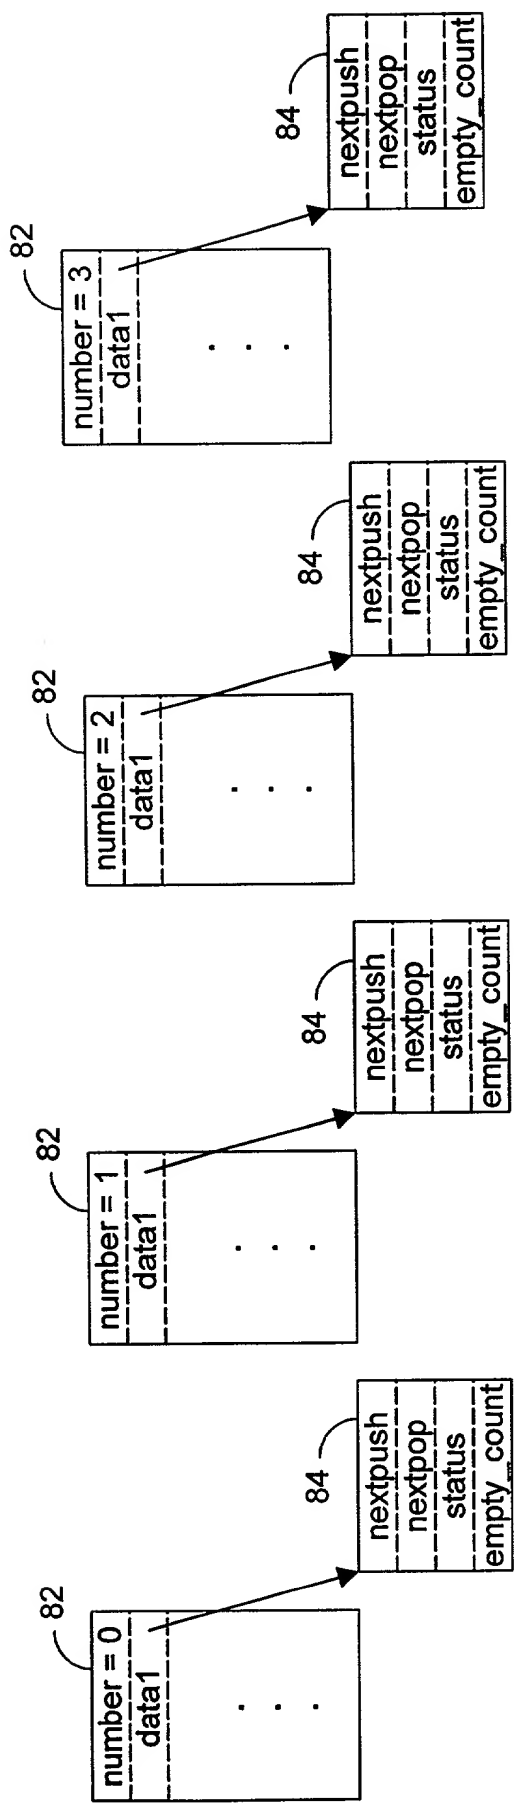

FIG. 8
FIG. 8 is a diagram illustrating a sequence of four data structures, each consisting of a main data block (82) and a control block (84). The main data blocks are labeled with 'number = 0', 'number = 1', 'number = 2', and 'number = 3' respectively, indicating a sequence. Each main data block contains a 'data1' field and three dots, suggesting multiple data entries. The control blocks (84) are labeled with 'nextpush', 'nextpop', 'status', and 'empty_count' fields, indicating control parameters for the sequence.